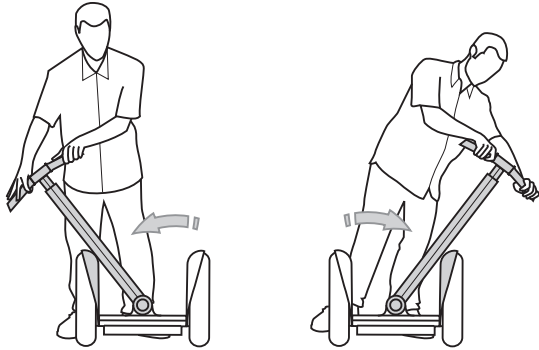

Figure 4. Ensure the LeanSteer Frame returns to a straight-up position
9. With the Segway PT POWERED DOWN (OFF), lean the LeanSteer Frame fully left and right, until it touches each fender and ensure the LeanSteer Frame returns to a straight-up position. See Figure 4. If the LeanSteer Frame does not return to a straight up position, loosen the fastener and return to step 4.